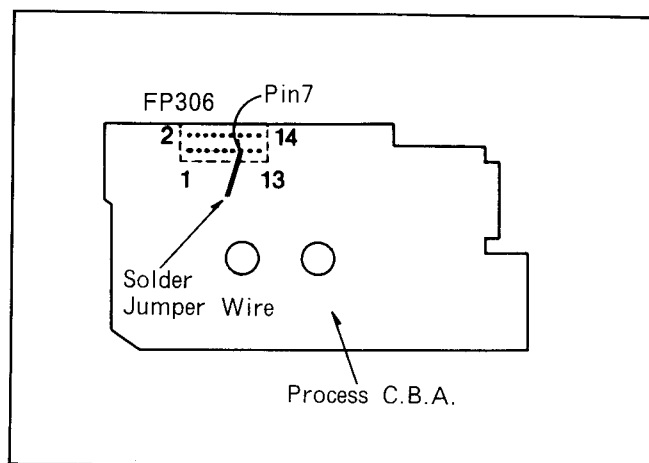

Fig. C19
- (1) Aim the camera at the gray scale chart.
- (2) Connect the jumper wire among TP511, TP512 and TP513.
- (3) Connect the scope to pin 7 of FP306. (Refer to Fig. C19)